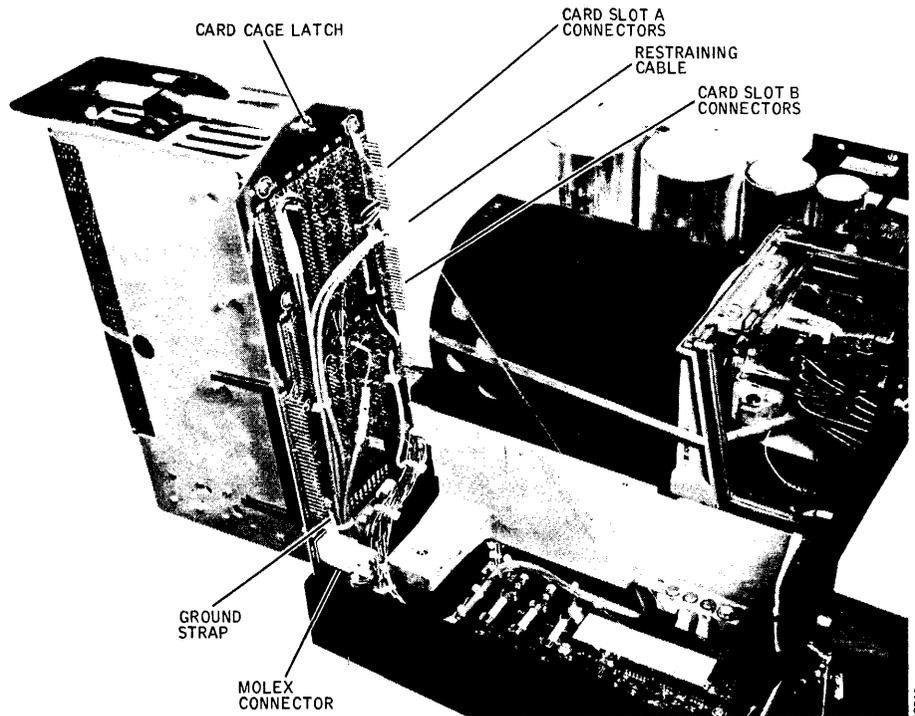

Figure 3-16. Card Cage in Raised Position
The card cage assembly, located next to the linear motor, is hinged to the disk drive frame so that it can be raised for access to card connector test points and components mounted on the chassis below. (See Figure 3-16.) The card cage houses all the electronics on six plug-in circuit cards with the exception of circuits on the Power Supply Assembly, the Read/Write Matrix card, and the Servo Preamp card.
To gain access to card connector test points (see Figure 3-16), unlatch the card cage by turning the knurled knob located between the air-directing wings of the card cage one-quarter turn counterclockwise, and raise the card cage assembly on its hinges so that it rests against its restraining cable in the open position. The disk drive may be operated in this open position for test purposes. However, if extended, vigorous seek exercising is to be performed, the card cage assembly should be closed to restore forced-air cooling for the circuit cards. The Servo Control card is particularly prone to overheating in the open position.
- See Figure 3-16. Notice several multi-wire cables and separate wires are connected directly to circuit card connector pins using push-on-type connectors. Disconnect and tag each of these wires with the connector pin number from which they were removed. Clip all tie wraps and loosen any cable clamps that hold the disconnected cables and wiring to the card cage assembly.
- To install the repaired assembly or a replacement, reverse this procedure. When tightening the four hinge screws that mount the card cage assembly, it is helpful to have the assembly closed and latched. This will ensure proper latch alignment. Refer to Figure 3-16 when reconnecting the back plane cables for proper cable dress, and replace all securing tie wraps and cable clamps.